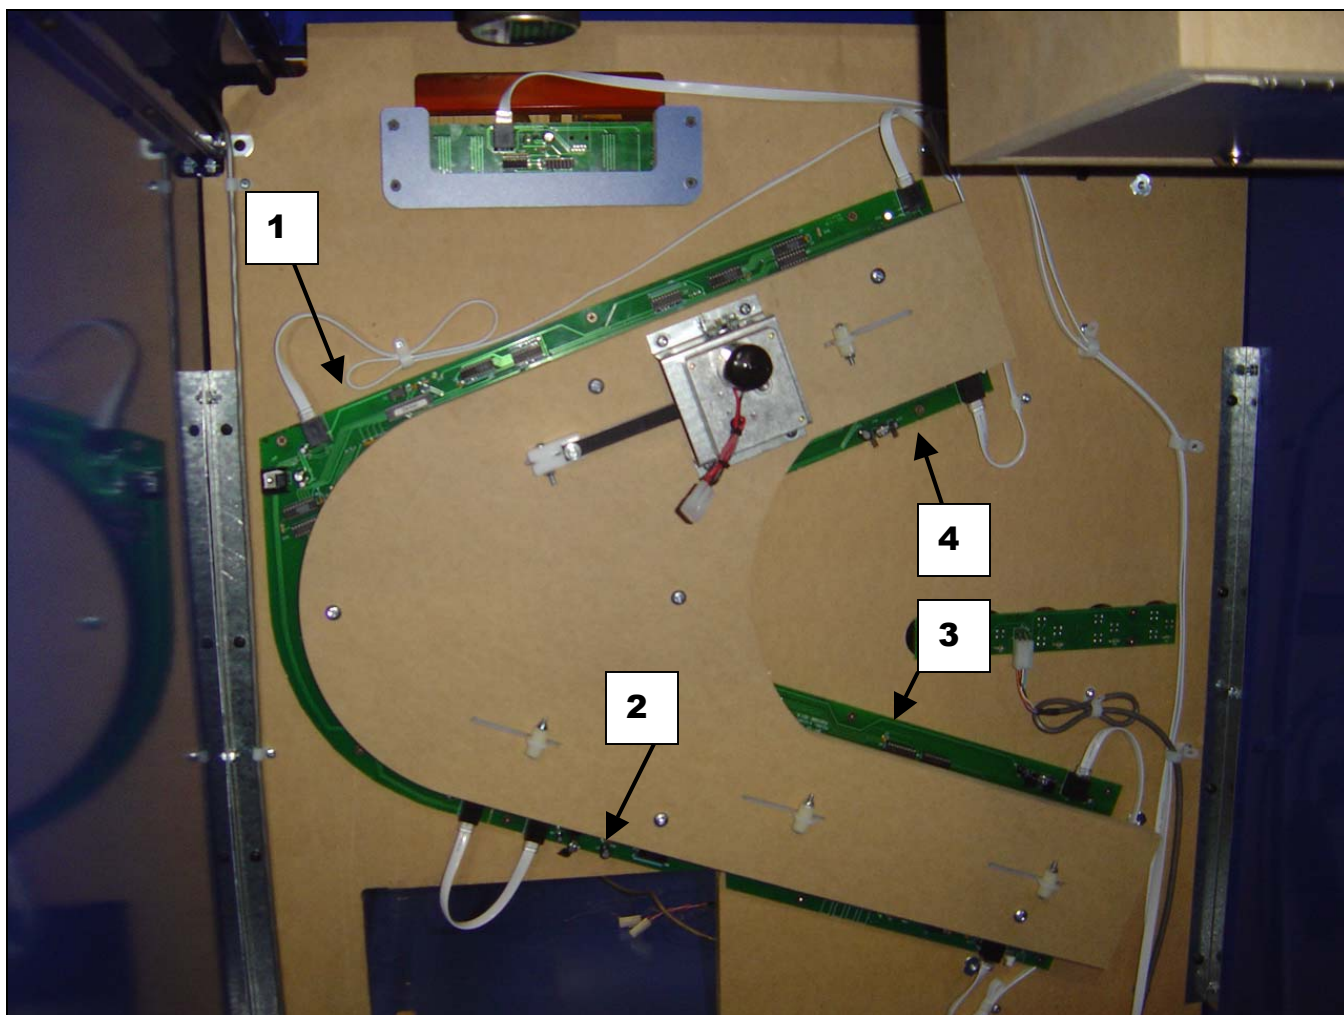

Figure 7 Circuit Board Locations
Track circuit board diagnostics: The track zones are grouped onto four separate circuit boards as shown in figure 7 and are mounted to the underside of the ball track. Communication between the main circuit board and the four sub-boards is critical. To quickly check for proper communication, each board is equipped with a small green LED light. For the two outside boards, (1) and (2), these lights should be flashing slowly, indicating that the processors are operating correctly. If they are not flashing at all, the cable may be bad or the processor is faulty. The LED's for the two inside boards, (3) and (4), will flash rapidly to confirm proper operation. If they are flashing slowly, it is an indication of a bad cable or processor.